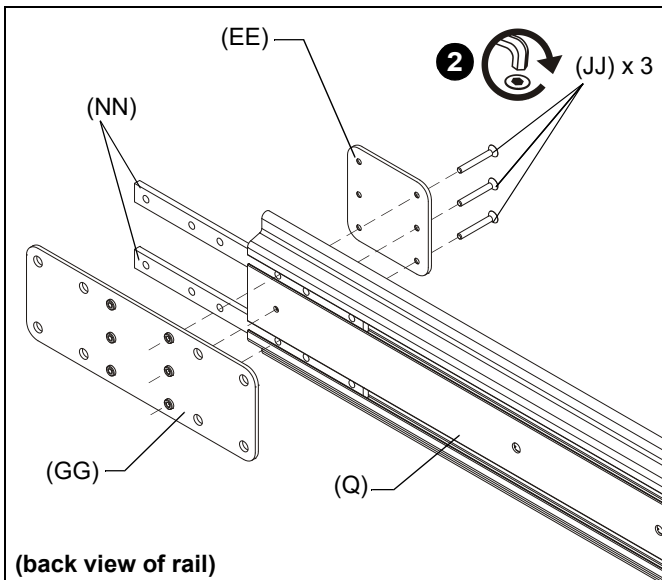

Figure 17
2. Secure connect bracket (EE) to front of mounting rail (Q) using three 10-24 x 1-1/2" flat head cap screws (JJ) fastened through one side of connect bracket, mounting rail (Q), tie bars (NN) and into connector plate (GG). (See Figure 17)